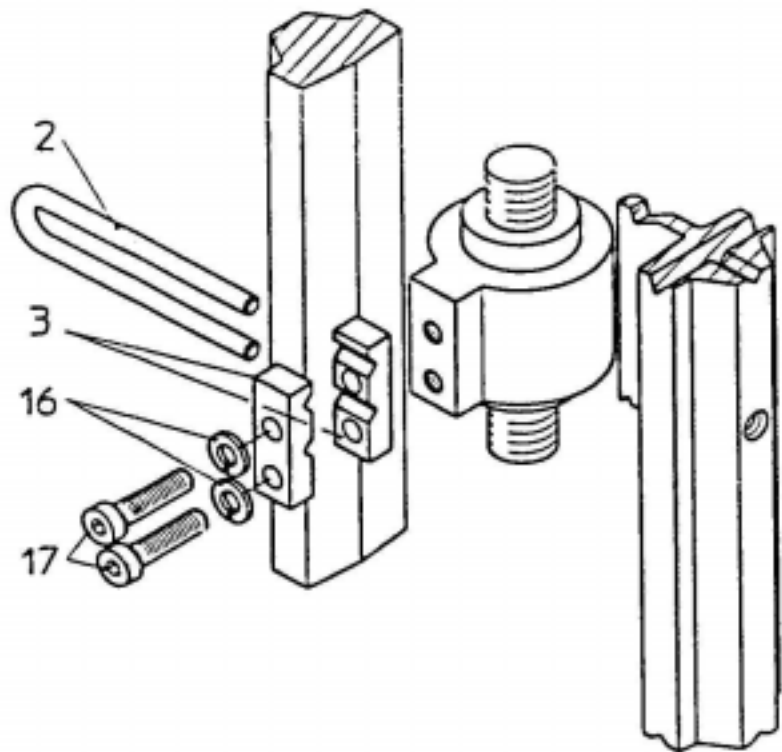

Bild 3.1
2.2 Assembly Procedure (see figures 3.1 to 3.5)
- Assemble clamps (3) with cylinder head screws (17) and spring washers (16) on the drive spindle.
- Push the tapping bracket (2) into the countersinks of the clamps. Set the required length and tighten the screws so that the tapping bracket can still be moved.
- Push the roller (5), spring (13) and guide washer (22) onto the carrier pin (4).
- Push the carrier pin (4) into the NAMUR (6) lever and assemble with the U-washer (12), spring washer (14) and hexagon nut (18). The stroke range value specified on the drive or, if this is not available as a scaling value, the next highest scaling value is set. The centre of the pin must be at the scaling value. The same value must be set later under 1.YWAY during commissioning.
- Assemble cylinder head screw (17), spring washer (16), U-washer (12) and hexagon nut (19) on the lever.
- Push the pre-assembled lever in as far as the stop on the position controller axle and fix with the cylinder head screw (17).
- Remove the locking screw and O-ring from the air transfer opening (A) of the position controller.
- Select the row of holes for fixing the position controller to the solenoid valve block (1). The choice of the row of holes depends on the width of the drive lantern. The roller (5) should reach into the tapping bracket (2) near to the spindle but should not touch the clamps. Depending on the choice of the row of holes, one of the two air transfer openings (B) of the solenoid valve block is used for the air transfer from the position controller. Lock the unused air transfer opening with the O-ring (23) and cylinder head screw (20). Insert the O-ring (24) in the countersink of the used air transfer opening. Mount the solenoid valve block (1) with cylinder head screws (9) and spring washers (10) on the back of the position controller and align it.
- Hold the solenoid valve block with position controller against the drive lantern. Set the tapping bracket (2) so that the roller (5) is guided inside the tapping bracket. Fix the tapping bracket with the cylinder head screws (17).